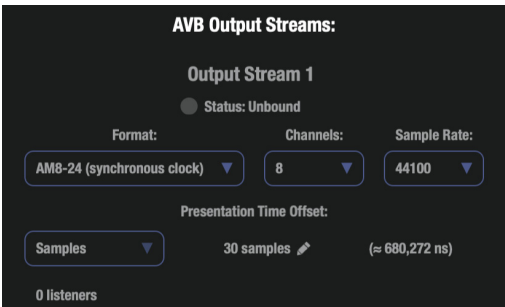

Figure 9-4: Output stream settings.
- 2 Choose any Output stream (it doesn't matter which one) and use the *Channels* and *Format* menus (Figure 9-4) to specify the number of channels in the stream and its AVB stream format (see "AVB output stream format" below).
- 3 Set the stream's sample rate (Figure 9-4). In most cases, make sure the stream sample rate matches the sample rate of the two devices being connected. The only occasion where the stream sample rate would be different than the device sample rate is if you are working with devices that support sample rate conversion.
- 4 Set the stream's Presentation Time Offset (Figure 9-4) as explained on page 76.
Since AVB was first developed, stream formats (Figure 9-4) have evolved. *AM8-24* is an older format supported by earlier-generation Pro Audio v1 (PAv1) MOTU AVB devices (such as the 1248, 8M, original 16A, etc.) and other 3rd-party AVB gear. *AAF-PCM* is a newer format that is supported by many Milan-certified AVB devices. Below is a summary of which format to use in various situations.
An AVB stream is a flow of audio data sent over an Ethernet network using data packets. A *talker* sends a stream, and a *listener* receives and plays it. *Presentation Time Offset* (Figure 9-4) determines the latency of the AVB stream. Each AVB packet contains a presentation time, which indicates when the audio should be played. The presentation time is calculated by adding the configured Presentation Time Offset to the time at which the packet is transmitted by the talker. The listener buffers received packets until the presentation time.
PAv2 MOTU interfaces default to a talker presentation time offset of 24 samples (~0.5 ms). This default setting can be adjusted as needed on a per-stream basis using the Output Stream setting shown in Figure 9-4 on page 75.